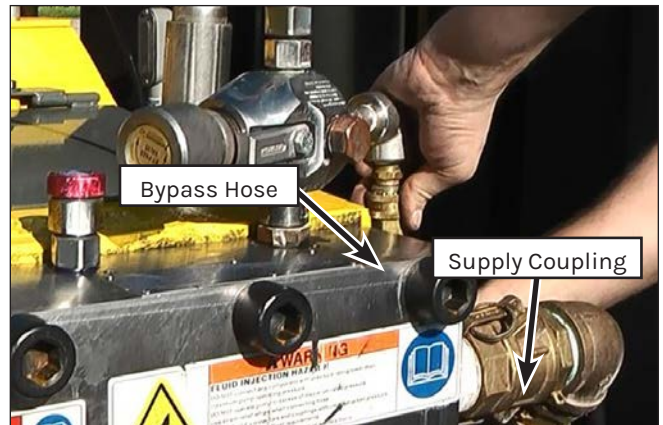

Figure 58: Line Removal.
4. Disconnect the bypass drain hose and the supply coupling from the manifold (Figure 58).